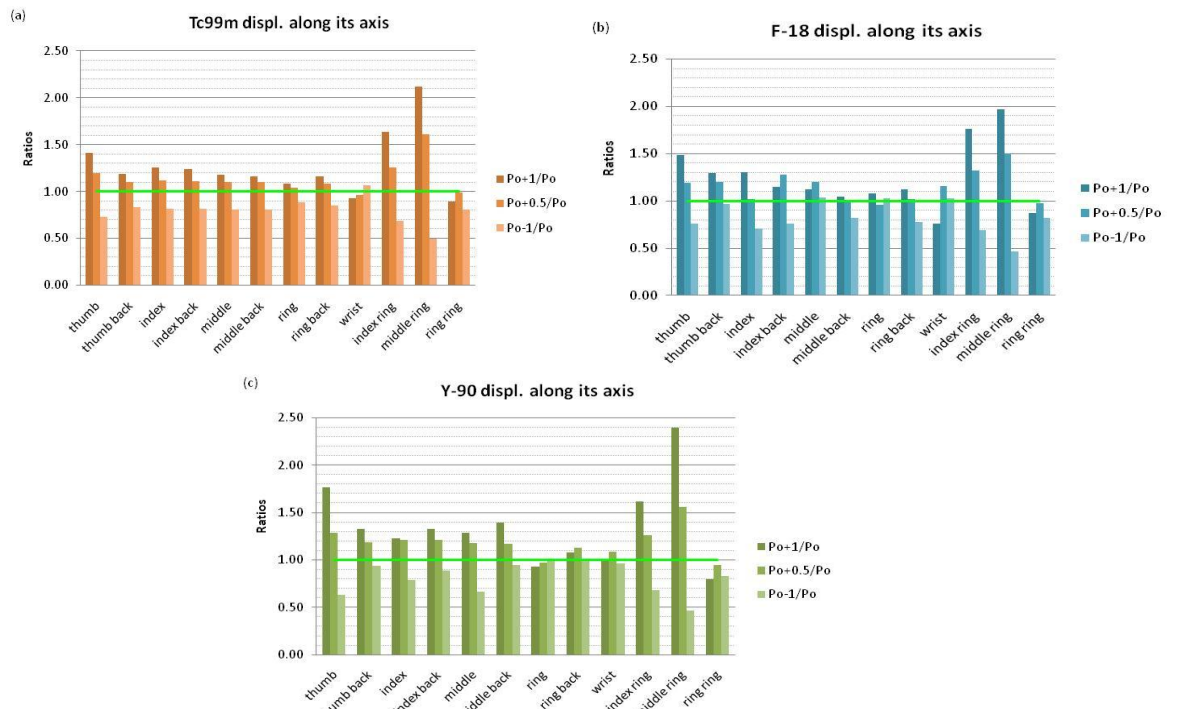

Figure 2: Example of ratios between different position and initial position. a)Tc-99m; b)F-18 and c) Y-90
- Calculate the ratios between the different positions and the initial position ( $P_0$ ). Do one histogram for each nuclide. See example in Figure 2. Then, with the same data, do one histogram for each "new position", comparing all nuclides. See example in Figure 3.